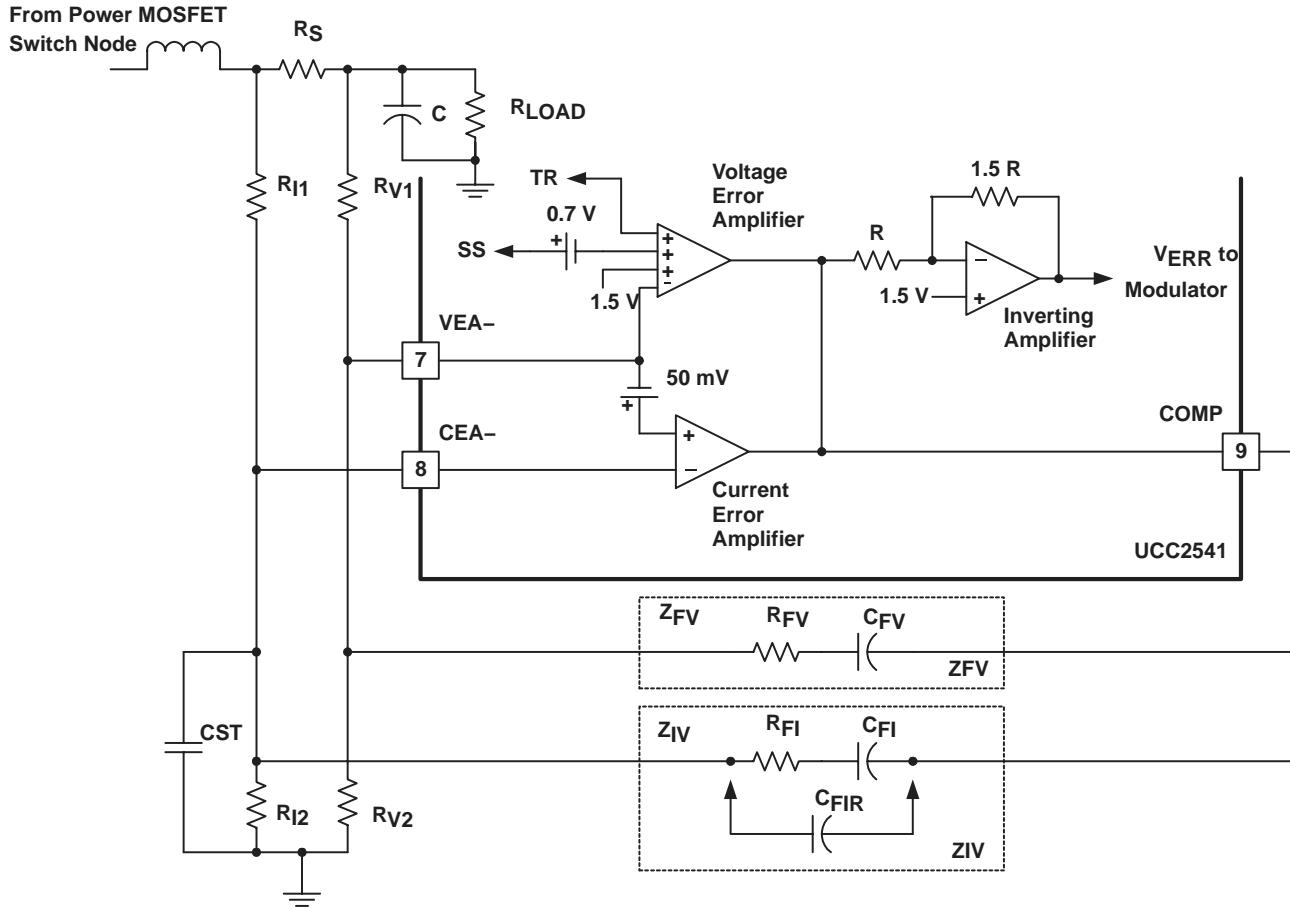

Figure 3. Error Amplifier Configuration
Current limiting begins to occur when the difference between CEA– and VEA– exceeds 50 mV. For currents that exceed this operating condition, the UCC2541 controls the converter to operate as a pure current source until the output voltage falls to half of its rated steady state level. Then the UCC2541 sets both G1 and G2 outputs to LOW and it latches a fault that discharges the soft-start voltage at 30% of its charging rate. The UCC2541 inhibits a retry until the soft-start voltage falls below 0.5 V. A functional diagram of the voltage and current error amplifiers is shown in Figure 3.
**Voltage vs. Current Programming (refer to Figure 3):**
From no-load to full rated load operating conditions, the UCC2541 operates as a voltage mode controller. Above the programmed rated current, there are two levels of over current protection; constant current limit and overcurrent reset/retry. This section gives suggestions on how to design the voltage controller and current controller so that they interact with one another in a stable fashion. Refer to the functional diagram of the voltage and current error amplifiers in Figure 3. The voltage error amplifier in the figure shows three non-inverting inputs. The lowest of the three non-inverting inputs (1.5 V, SS and TR) is summed with the inverting input to achieve the voltage error signal. The lowest of the two outputs drives the inverting stage which in turn, drives the modulator.
During steady state voltage control operation, the feedback elements in the current loop have no effect on the loop stability. When current limit occurs, the voltage error amplifier effectively shuts OFF and the current error amplifier takes control. During steady state current limit operation, the negative feedback elements in the voltage error amplifier loop become positive feedback elements in the current error amplifier loop. In order for the current error amplifier to be stable, the impedances in the feedback path of the current error amplifier must be lower than the impedances in the feedback path of the voltage error amplifier. This means that resistors in the current error amplifier negative feedback path must be less than the resistors in the voltage error amplifier negative feedback path. Also capacitors in the current error amplifier negative feedback path must be larger than capacitors in the negative feedback path of the voltage error amplifier negative feedback path. (Capacitance is really an admittance value rather than an impedance value). This concept is illustrated in Figure 3.
In order for the current loop to be stable in Figure 3,  $\|Z_{IV}\|$  must be less than  $\|Z_{FV}\|$  over all frequencies. This can be achieved if  $R_{FI} < R_{FV}$  and  $C_{FI} > C_{FV}$ .
Another issue that can occur during current limit operation is modulator stability. In order for the modulator to be stable, the rising slope of the current ripple measured at the COMP pin must be smaller than the rising slope that is measured at the RAMP pin. This can be met either in the selection of the ratio of  $||Z_{IV}||$  to  $||Z_{FV}||$ , or by the addition of a capacitor in parallel to  $R_{FI}$  and  $C_{FI}$ , such as  $C_{FIR}$ , in Figure 3.
In some applications, this current and voltage error amplifier configuration may lead to difficulties with startup at turn on and with restarting after current limit hiccup operation. A small capacitor from CEA– to ground can filter this node to alleviate this issue. This capacitor is shown as  $C_{ST}$  in Figure 3.
### Stable Dynamic Current Loop Design (refer to Figure 3):